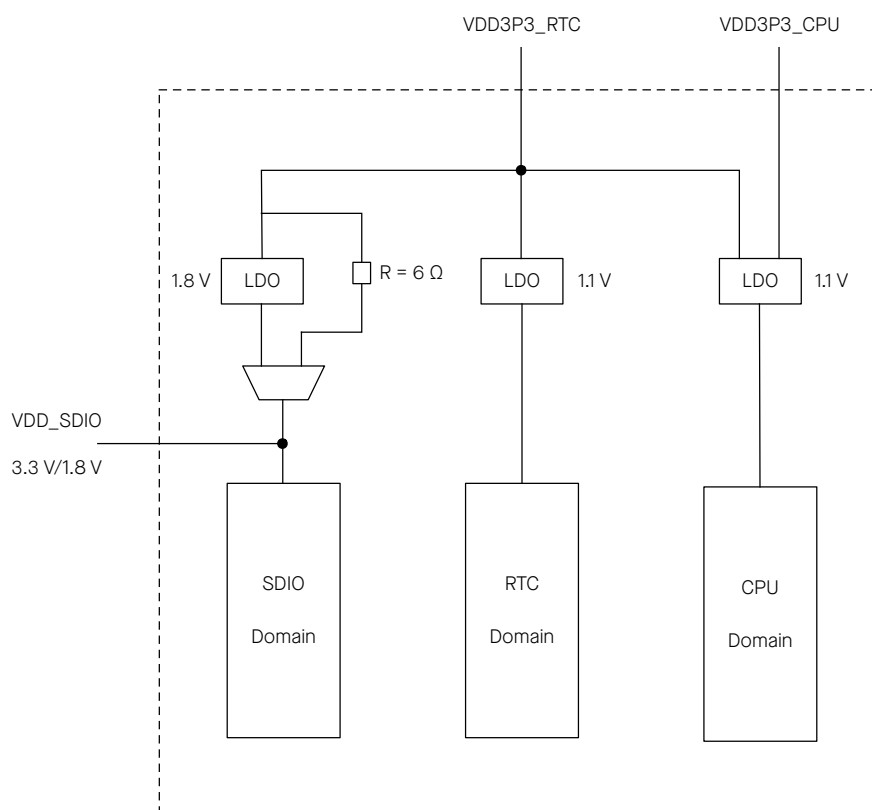

Figure 2-3. ESP32 Power Scheme
The power scheme is shown in Figure 2-3 ESP32 Power Scheme.
1. As the in-package flash (ESP32-U4WDH) and the in-package PSRAM (ESP32-D0WDR2-V3) operate at 3.3 V, VDD_SDIO must be powered by VDD3P3_RTC via a 6 Ω resistor. See Figure 2-3 ESP32 Power Scheme.